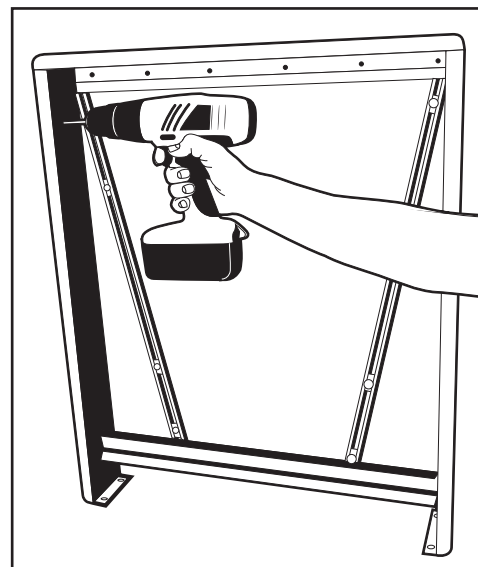

Figure 1
6. Using an $\frac{1}{8}$ " drill bit, drill the metal enclosure for the mounting screws (typically this would be done top and bottom of each side). See Figure 1